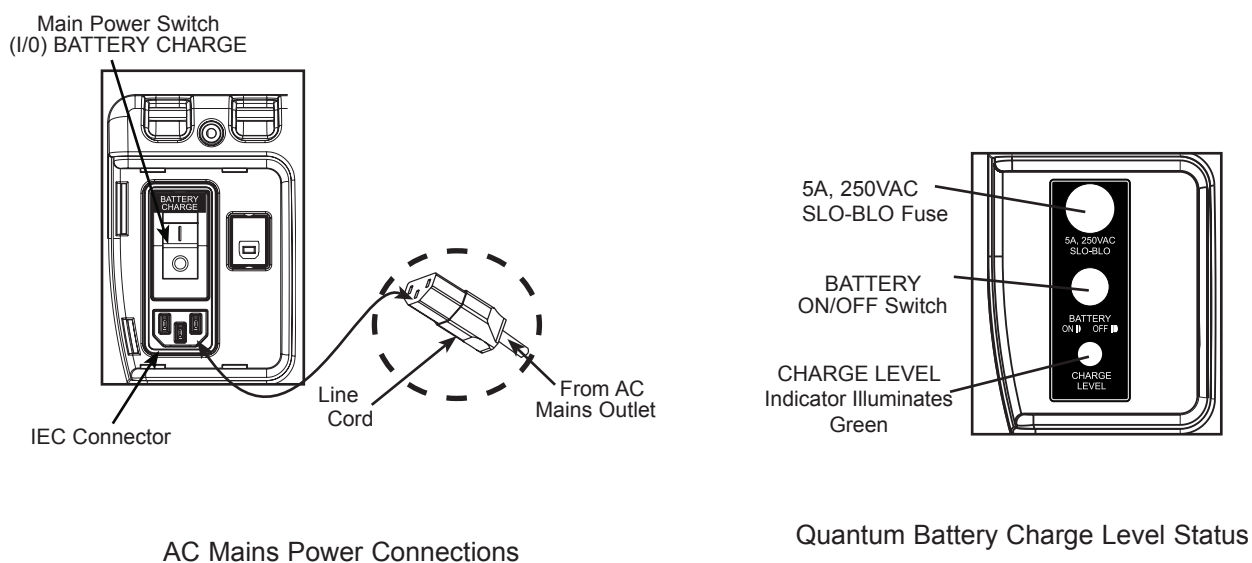

Figure 6. ScanX Battery Charging Connections and Charge Level Status
The internal battery must always be charged prior to using. To reach the full operational power level, charge for at least 3 hours before using for the first time and on subsequent uses. Refer to figure 6 and charge the battery by performing the following steps.
1. Connect the AC Mains line cord as shown by Figure 6.
2. Place the Main Power switch to the ON (I) position and make sure that the BATTERY ON/OFF switch is set to the OFF position.
4. Place the Main Power switch to the OFF (0) position and disconnect the AC Mains line cord.